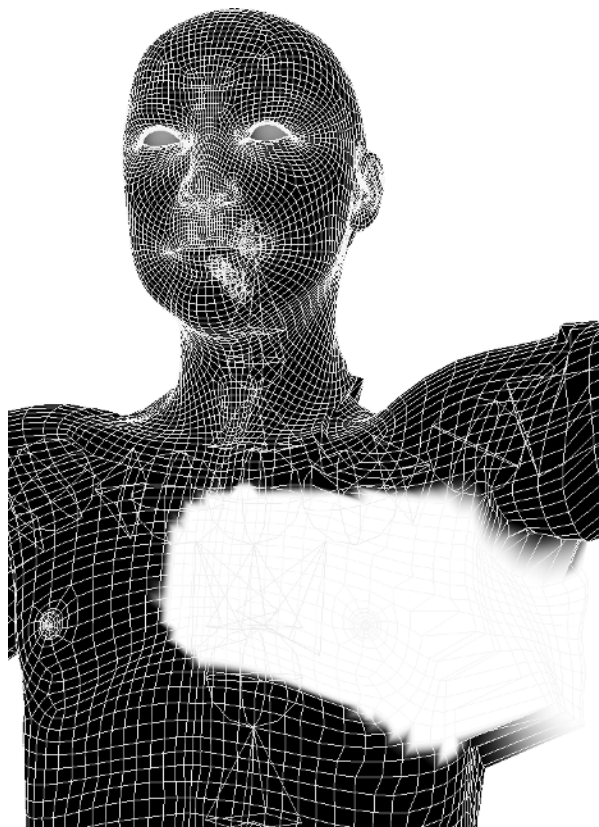

Figure 1.13
12. Change Value to 1.0, and change Brush Profile to the Solid brush. Paint from the bottom of the breast to just under the collar bone. Go from the center of the chest to the center of the back. Use the edge flow of the geometry as a guide. There is no need to paint the right side because you'll eventually mirror the weights. Use Figure 1.13 as a reference.